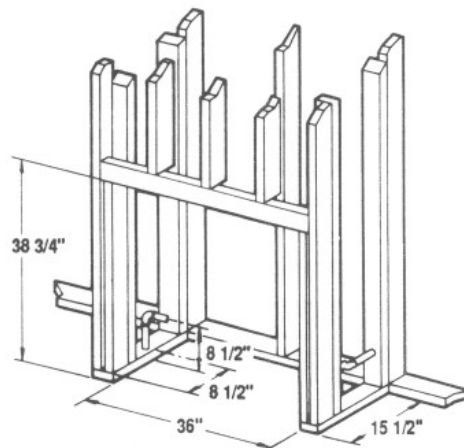

Figure 1
Step 1. Frame fireplace enclosures as illustrated in Figures 1, 2, 3 and 4.